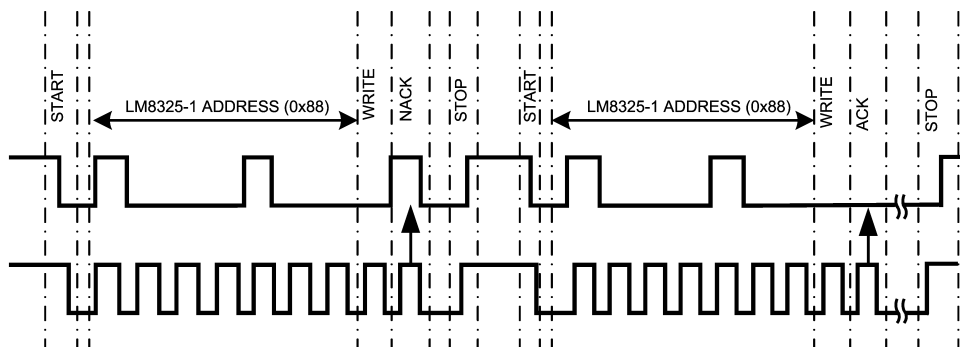

Figure 5. Host Starts Communication While LM8325-1 is in Sleep Mode
- In the timing diagram shown in Figure 5 the LM8325-1 resides in sleep mode. Since the LM8325-1 device can’t acknowledge the slave address the host must generate a STOP condition followed by a second START condition.